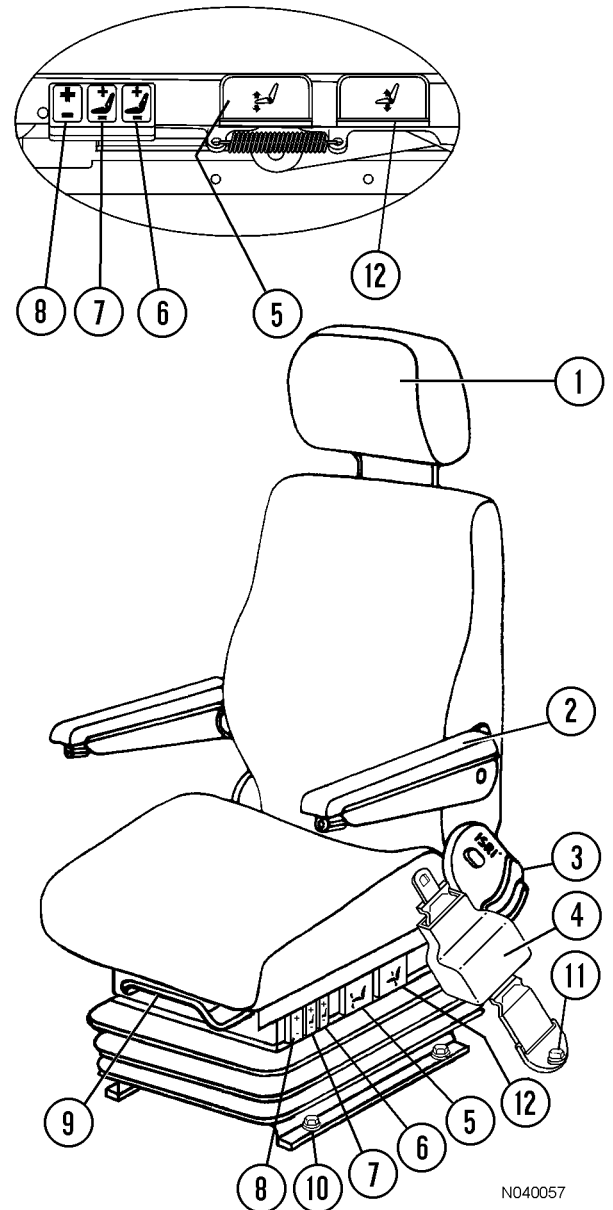

FIGURE 32-5. OPERATOR'S SEAT ADJUSTMENT CONTROLS
1. **Headrest:** (1, Figure 32-5) will move up, down, fore, or aft by moving the headrest to the desired position.
3. **Backrest:** Lift handle (3) to release and select the backrest angle. Release the control handle to set.
4. **Seat Belt:** The operator must always have seat belt (4) buckled in place and properly adjusted whenever the vehicle is in motion.
5. **Seat Slope:** Lift lever (5) and hold to adjust the slope of the seat. Release the lever to lock the adjustment.
6. & 7 **Air Lumbar Support:** Each rocker switch (6 or 7) controls an air pillow. Switch (7) controls the lower air pillow and switch (6) controls the upper air pillow. To inflate, press on top of rocker switch and hold for desired support, then release. To deflate, press on the bottom of the rocker switch and hold for desired support, then release. Adjust each pillow for desired support.
8. **Seat Suspension:** Adjust switch (8) to obtain the desired stiffness of the adjustable suspension. Press the switch upward to stiffen the absorbency of the suspension. Press the switch downward to soften the ride.
9. **Fore/Aft Location of Seat:** Lift lever (9) and hold. Bend knees to move the seat to a comfortable position. Release the control lever to lock the adjustment.
12. **Seat Height:** Lift and hold lever (12) to adjust the height of the seat. Release the lever to lock the position.